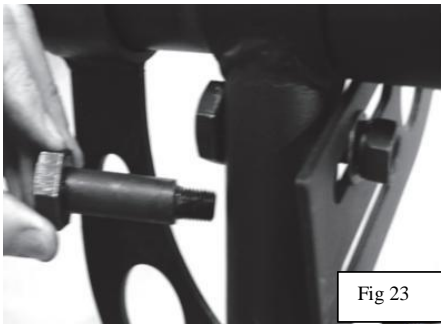

Fig 23
5. Install 2 #16 x 50 mm shoulder bolts through the rear upright (install between upright gusset and leg) and through the crossbar gusset slots. Attach using flat washers, spring washer and locknuts. (Fig 23)